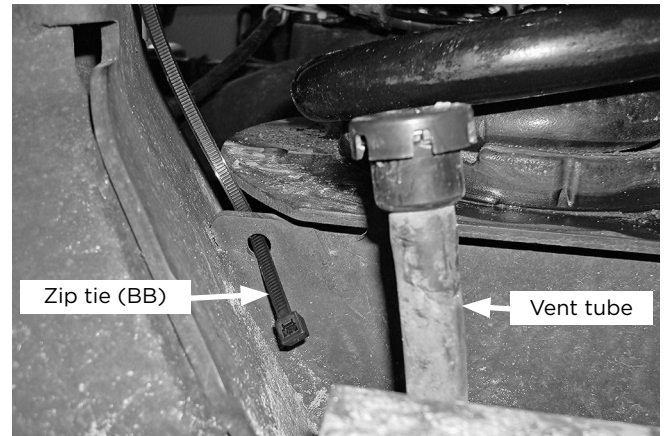

Fig. 4
2. On the driver's (left) side by the axle on some models, there is a small vent tube (Fig. 4) that needs to be tied on an angle with a zip tie (BB).